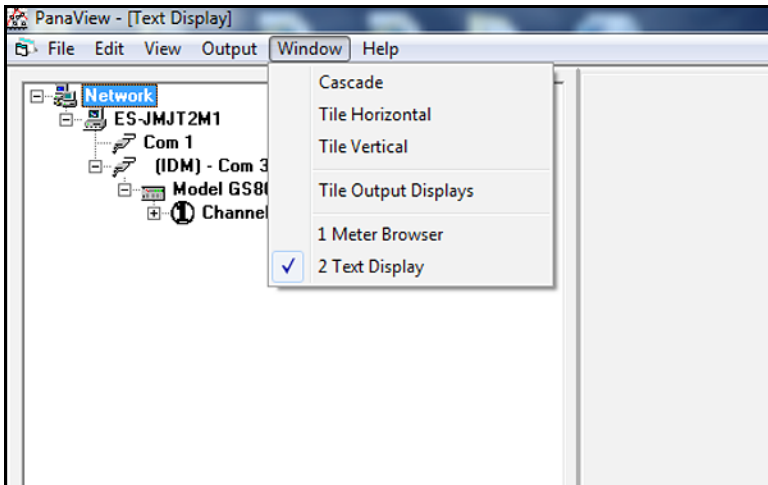
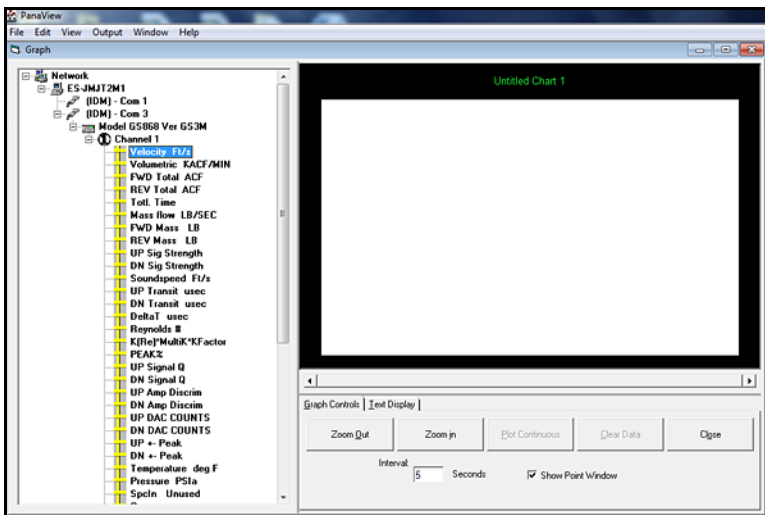

Figure 49: The Window Menu
Figure 53: The Graph Window
4. To rearrange the two open windows, open the “Window” menu (see *Figure 49* below).
Note: *After resizing or removing any of the multiple text screens, the default tiled layout may be restored by opening the “Window” menu (see Figure 49 on page 67) and clicking on the “Tile Output Displays” option.*
3. Arrange the multiple “Text Display” windows as desired via the “Window” menu (see Figure 49 on page 67).
3. Using the “*Window*” menu, as shown in *Figure 49* on page 67, arrange the open windows in the desired format. *Figure 53* below shows the “*Graph*” window in its maximized (full-screen) size.
The “*Graph*” window shown in *Figure 53 on page 76* has three panes:
2. After you have finished creating the desired graphs, click the [Close] button in the lower right pane of the “Graph” window (see *Figure 53 on page 76*).